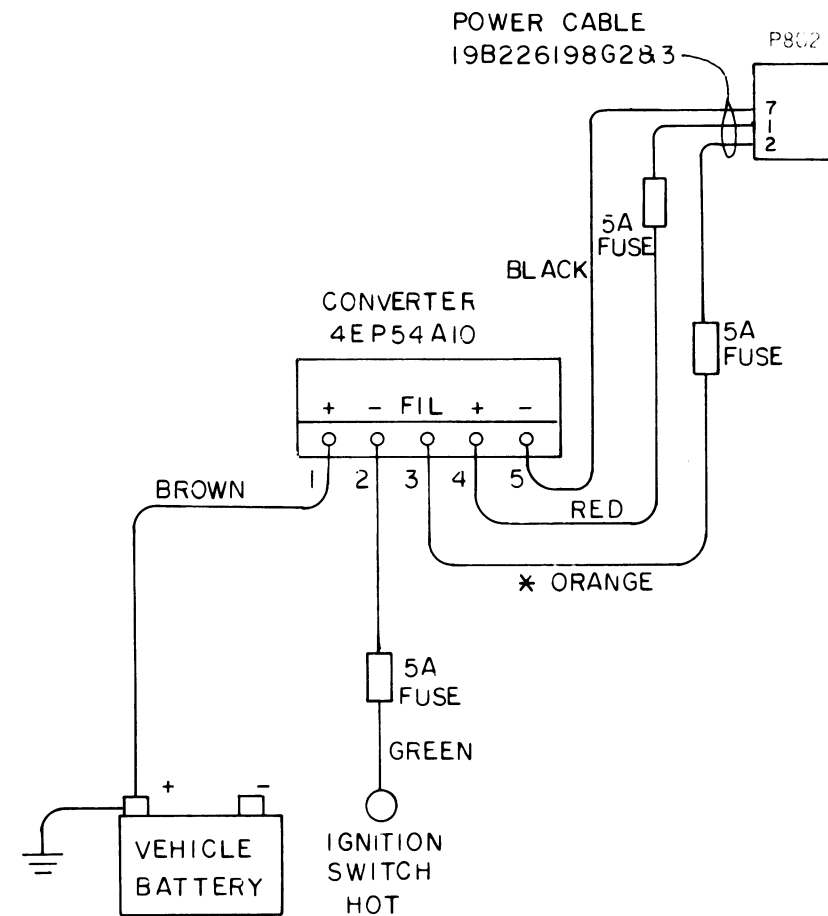

FIG. 1
2. MAKE IGNITION SWITCH CABLES AND CONVERTER CONNECTIONS PER APPLICABLE FIG. 1 OR 2 (TERMINALS FURNISHED WITH CONVERTER TO MAKE CONVERTER CONNECTIONS.)